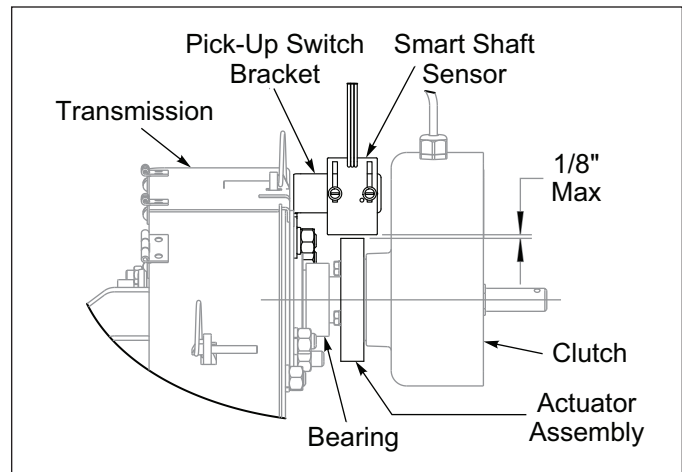
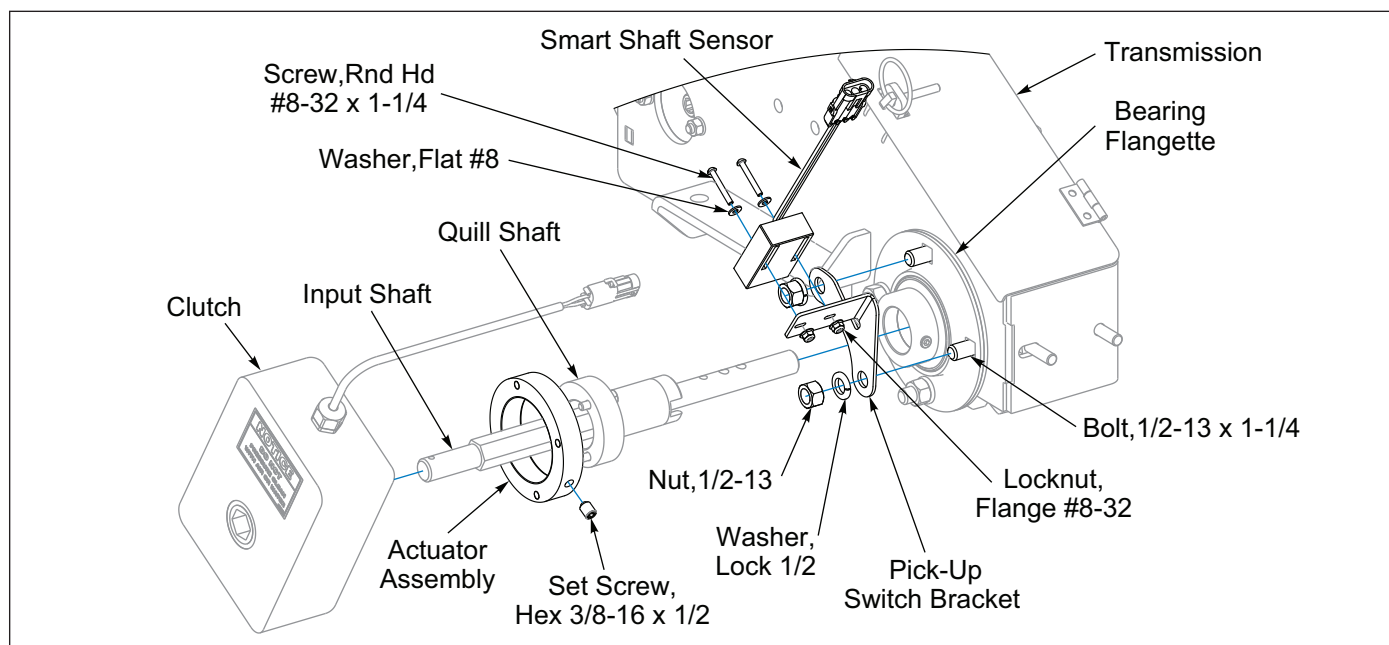

Figure 2-24: Ground Speed Sensor Detail
Figure 2-28: Brillion Elite Mini Monitor - Ground Speed Sensor
2. Remove Seeder Clutch. Install Actuator Assembly onto the Quill Shaft outer diameter, securing with Actuator Assembly Set Screw. Reinstall Clutch. See **Figure 2-28**. Install Pick-up Switch Bracket to the Transmission Input Shaft Bearing Flangette Hardware. Assemble Smart Shaft Sensor onto the Pick-Up Switch Bracket with sensor provided hardware and #8-32 Flange Locknuts. Adjust the Smart Shaft Sensor so that it is 1/8" Max away from the Actuator Assembly. See **Figure 2-24**. Connect Ground Speed Smart Shaft Sensor to the Center Seeder Harness.